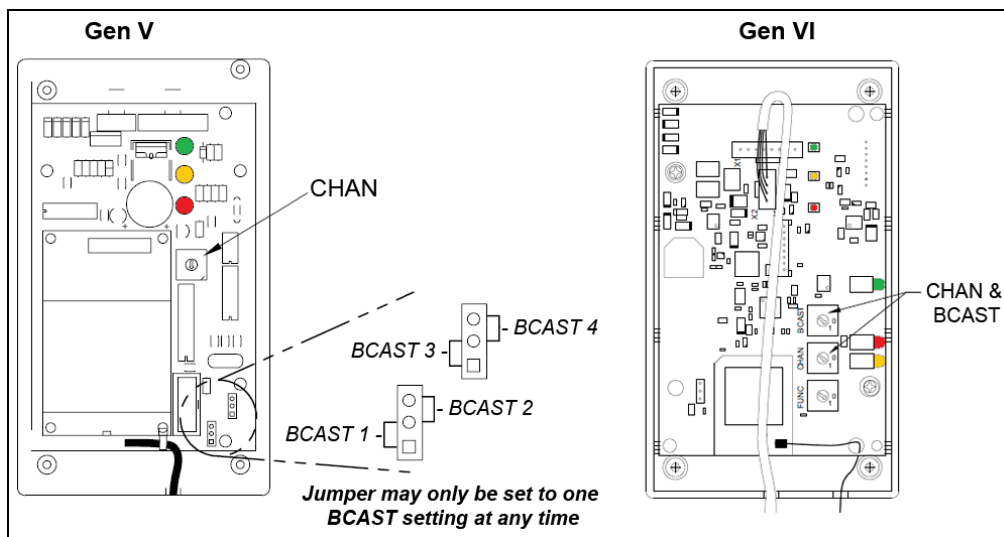

Figure 16: Radio Receiver Switches
5. The process of changing the radio settings depends on the generation of the radio. Refer to the instructions below and **Figure 16**.